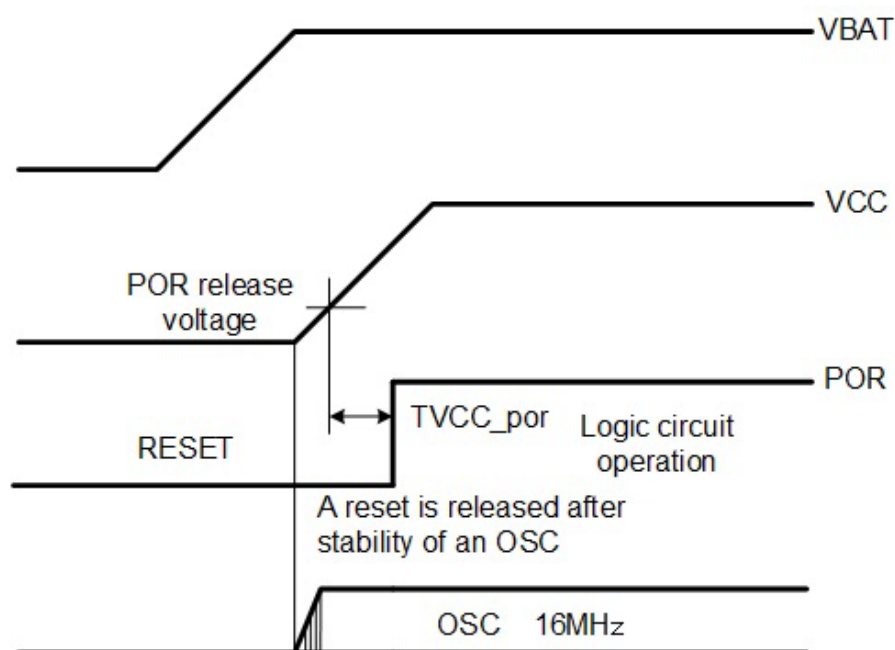

Figure 7.25 OSC circuit starting operation
7.11. OSC circuit (oscillation circuit) (Figure 7.25)